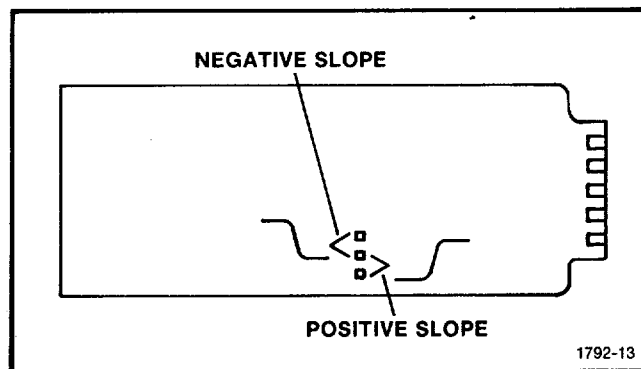

Figure 3-8. X-Y Output Module Strap.
**Pen Lift.** The Pen Lift signal level changes when the RECORD switch is activated. The normal level is either 0.0 V  $\pm$ 0.5 V or 5 V +0 or -1 V, depending on how the terminal link of the X-Y Output Module board is connected (positive or negative slope, see Fig. 3-8). When the RECORD switch is activated, the level will change from 0 V to 5 V or from 5 V to 0 V. The driving capability of this signal source is given in the Specification section of this manual.